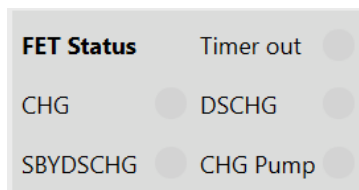

Figure 35: MOSFET Status Monitor
37. Figure 35 shows the MOSFET status monitor.